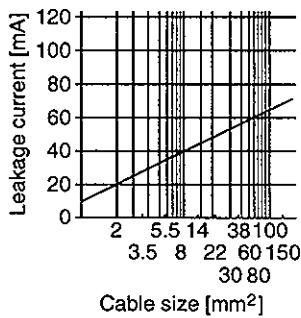

Fig.13.1 Leakage Current Example (I_{g1}, I_{g2}) for CV Cable Run in Metal Conduit
- I_{g1}: Leakage current on the electric channel from the leakage current breaker to the input terminals of the servo amplifier (Found from Fig. 13.1.)
- I_{g2}: Leakage current on the electric channel from the output terminals of the servo amplifier to the servo motor (Found from Fig. 13.1.)